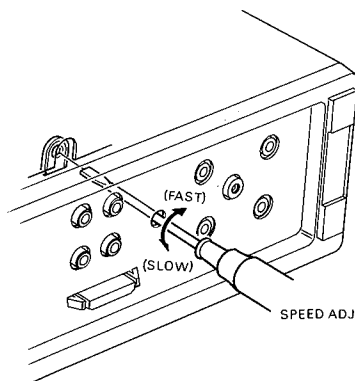

Fig. 5.2
- (1) Connect a frequency counter to the output jack.
- (2) Load the 3KHz Speed Wow Flutter Tape (DA-09006A) and play it back.
- (3) Adjust the tape speed adjust potentiometer. See Fig. 5.2.